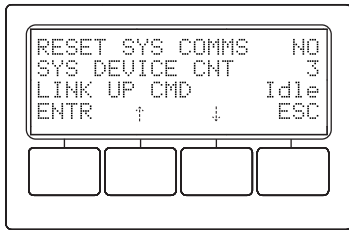

Fig. 5-24, Smart Display - BATT Menu
1. From the **BATT** menu, go to the **LINK UP CMD** line. Note that before the link-up, the **BATT** menu will almost certainly be showing errors because the BCMs are not powered or online. Scroll through the errors to get to **BATT INFO** to see the regular **BATT** menu options. The **LINK UP CMD** line is below the **SYS DEVICE CNT** line, which should show the correct count of BCMs in your system. (Fig. 5-24)